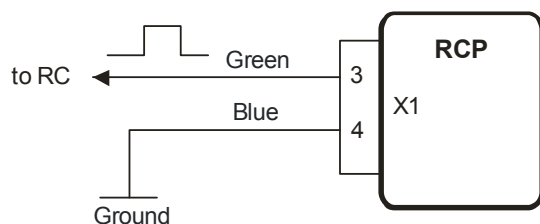
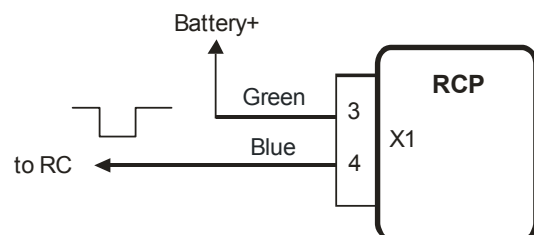

Figure 2
Figure 3
- The fig.2 presents the scheme to turn on the heater by the impulse of positive polarity. The fig.3 presents the scheme to turn on the heater by the impulse of negative polarity.